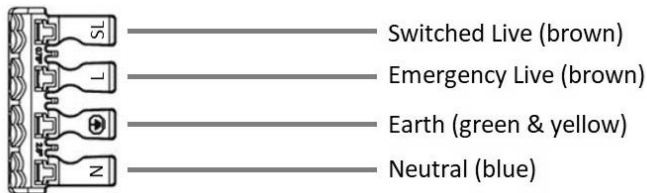

Fig. 2
- Ensuring correct polarity is observed, carefully wire as shown in Fig. 2. Two cables can be inserted into the push-fit terminal block in order to achieve loop-in / loop-out wiring